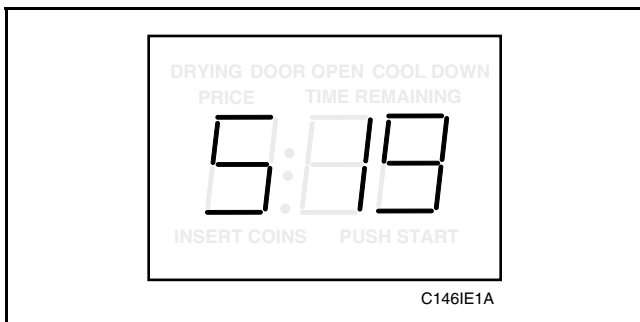

Figure 52
- While pressing and holding the HIGH TEMP pad with one hand, press the MED TEMP pad with the other hand. Programmable option number 1, (Audio Signal “SIg”), will appear in the VFD, *Figure 52*.